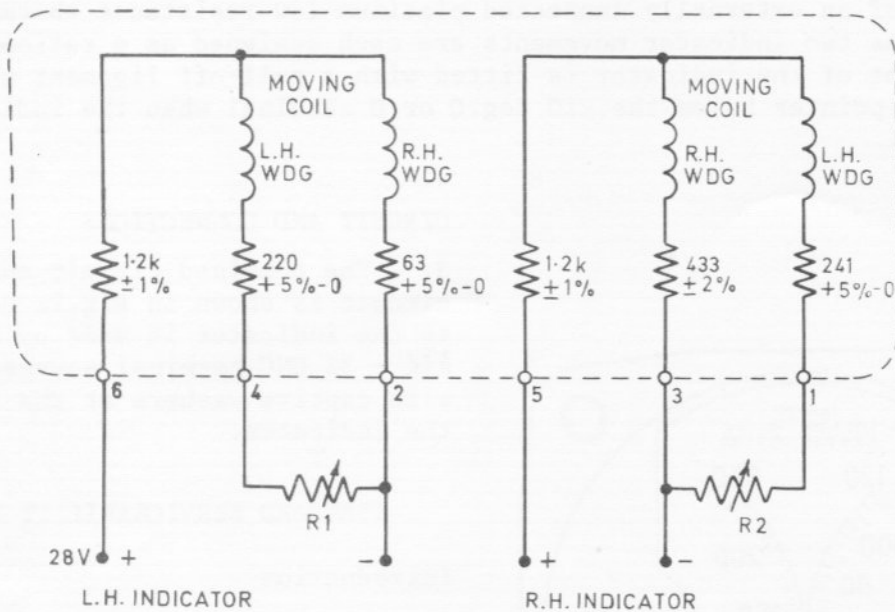

Fig.2 Circuit and test circuit diagram
8. Set the decade resistance box to be used as R1 to 125.2 ohms, then connect the indicator to the test circuit shown in fig.2 for the left-hand indicator.